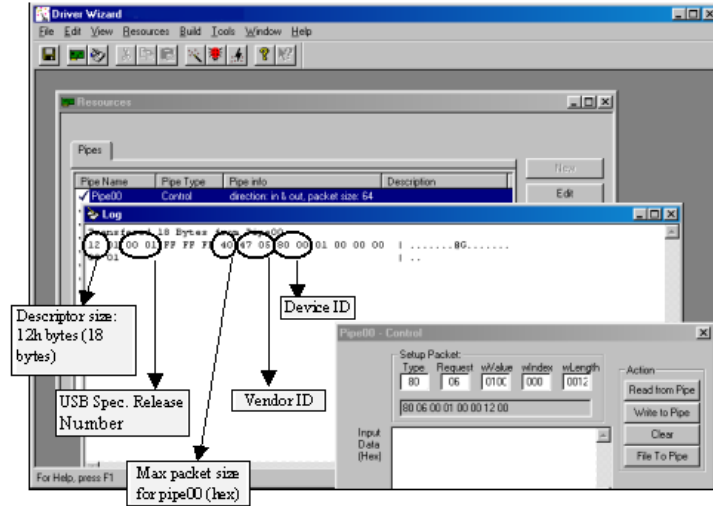

Figure 8.5: Log Screen
3. The device descriptor data retrieved from the device can be seen in DriverWizard log screen (see the Figure 8.5).